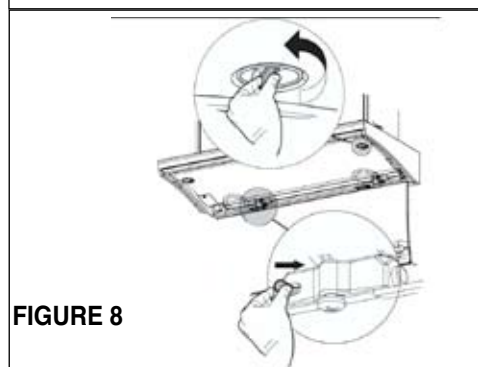

FIGURE 8
3. Open the comfort panel as shown in **FIGURE 8** by turning the 2 knobs on the left and right sides of the panel. Remove the comfort panel by sliding the lever out of the pin on one side and sliding the comfort panel on the other end out of the pin. Remove the grease filters by pushing the tabs backwards. Slide the glass visor forward.
9. Replace the grease filters (**FIGURE 10**) and reconnect the comfort panel to the rangehood and twist the comfort panel knobs into place (**FIGURE 8**). Connect the ductwork to the damper and seal all connections.
The metal grease filters should be cleaned frequently in hot detergent solution or placed in the dishwasher (see **FIGURE 10** for removing the grease filters). Clean exterior surfaces with hot soapy water. The inside of the comfort panel can be cleaned with a damp cloth. Using abrasives and scouring agents can scratch rangehood finishes and should not be used to clean. See (**FIGURE 8**) for removing the comfort panel to clean if you prefer, the panel can be cleaned on or off the hinges. Open the comfort panel by turning the 2 knobs on the left and right sides of the bottom. Remove the comfort panel by sliding the lever out of the pin on one side and sliding the comfort panel on the other end out of the pin. After cleaning replace the filters and reconnect the comfort panel and turn the knobs right.